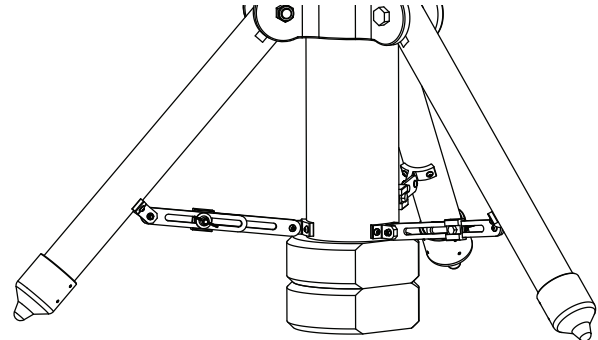

Fig. 1.1b
3. Place one or two counterweight(s) just between the bottom of the central post and the ground if there is enough space between them. This is a critical safety effort because the counter weight(s) will prevent users from putting their feet under the central post unconsciously. (Fig. 1.1b)